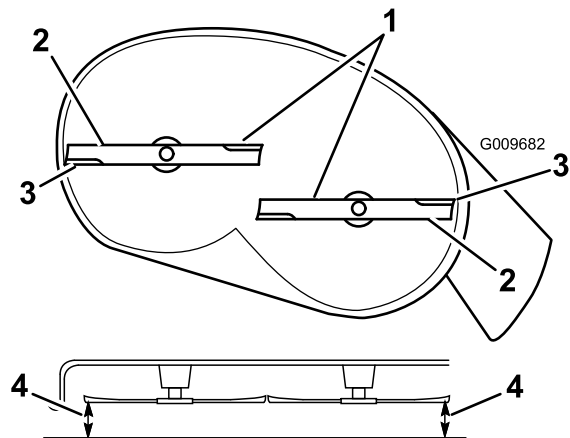
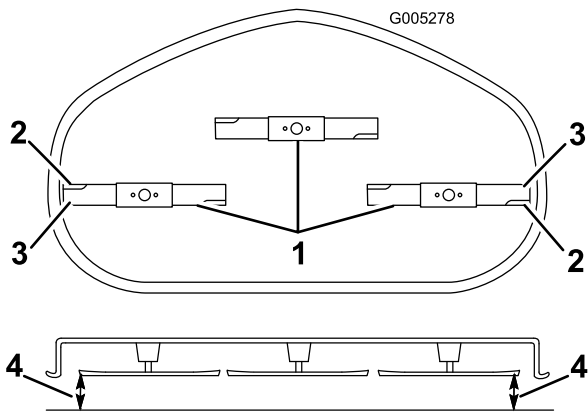

Figure 55
Figure 56
- Carefully rotate the blades so that they are all side to side (Figure 55 and Figure 56).
- Measure between the outside cutting edges and the flat surface (Figure 55 and Figure 56). If both measurements are not within 3/16 inch (5 mm), an adjustment is required; continue with this procedure.